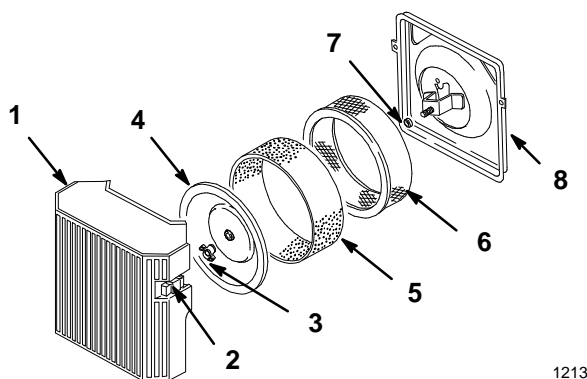

Figure 17
3. Clean around the air cleaner to prevent dirt from getting into the engine and causing damage. Unhook latches and remove the air cleaner cover (Fig. 17).
4. Carefully slide the foam element off the paper element (Fig. 17).
5. Unscrew the cover nut and remove the cover and paper element (Fig. 17).
1. Carefully slide the foam element onto the paper air cleaner element (Fig. 17).
2. Slide the air cleaner assembly and cover onto the long rod. Now screw the cover nut finger-tight against the cover (Fig. 17).
3. Install the air cleaner cover and hook latches (Fig. 17).